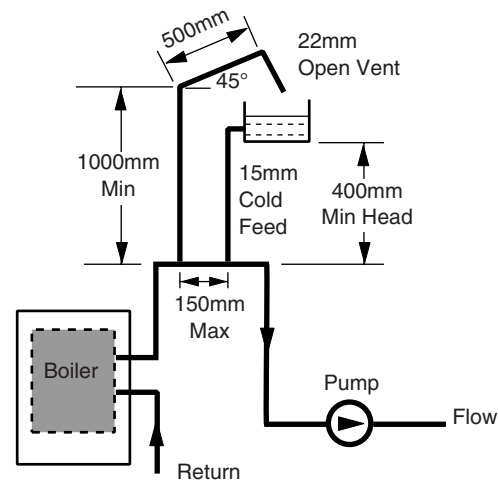

Fig. 8
1. Using a close couple arrangement the minimum head is as shown in the diagrams (Figs. 8 & 9) subject to the following conditions: